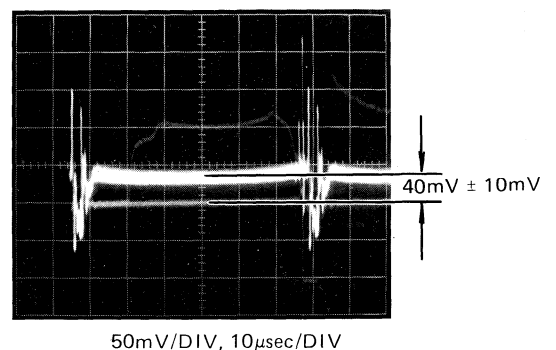

Fig. 4-2-24
- Adjust BIAS LIGHT VR13 so that the bias current is $35\text{mV} \pm 5\text{mV}$. (Fig. 4-2-24)